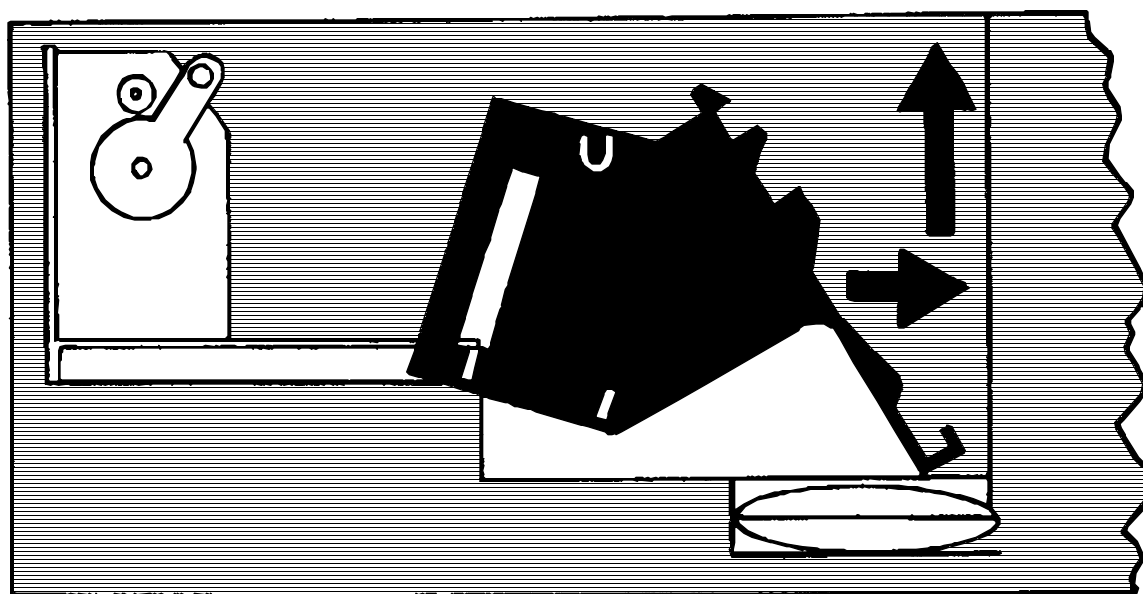

Figure 4-26 Sliding Mirror Up
17.2 Slide Mirror up and out. (Fig. 4-26)